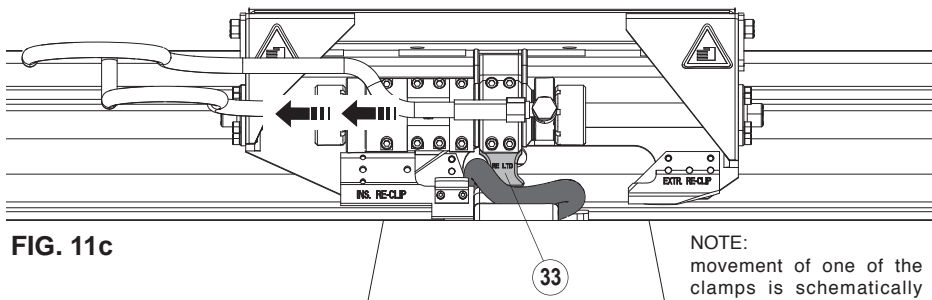

FIG. 11c
- After insertion, pull the control lever to "EXTRACT" position for teeth (33) reversal (see Fig. 11c).